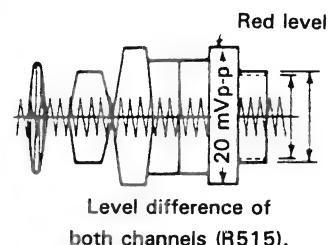

Figure 2-6.
5. Adjust R515 (record chroma level control) so that the red signal output is 20 mVp-p. (Fig. 2-6).